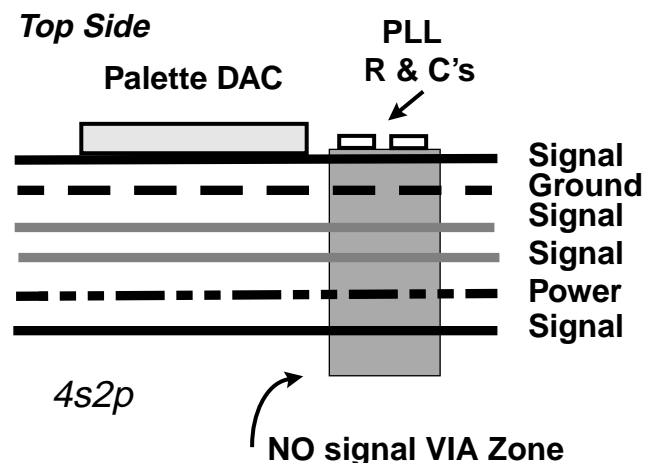

Figure 1. Card Cross Section
- Minimize ground noise by using a single, continuous, common ground plane. Do not segment the ground plane. Locate it as the *first* plane below the component wiring plane (see Figure 1).
Figure 1 is a cross section of a six layer, 4s2p graphics card in the vicinity of the Palette DAC and support circuitry. The recommended ordering of wiring planes for a 4s2p card is: Signal(*top/component*), Ground, Signal, Signal, Power, Signal (*bottom/solder side*). A 2s2p cards is: Signal (*top/component*), Ground, Power, Signal (*bottom/solder side*). In all cases, a continuous ground plane should be positioned as the first plane beneath the top/component wiring plane.